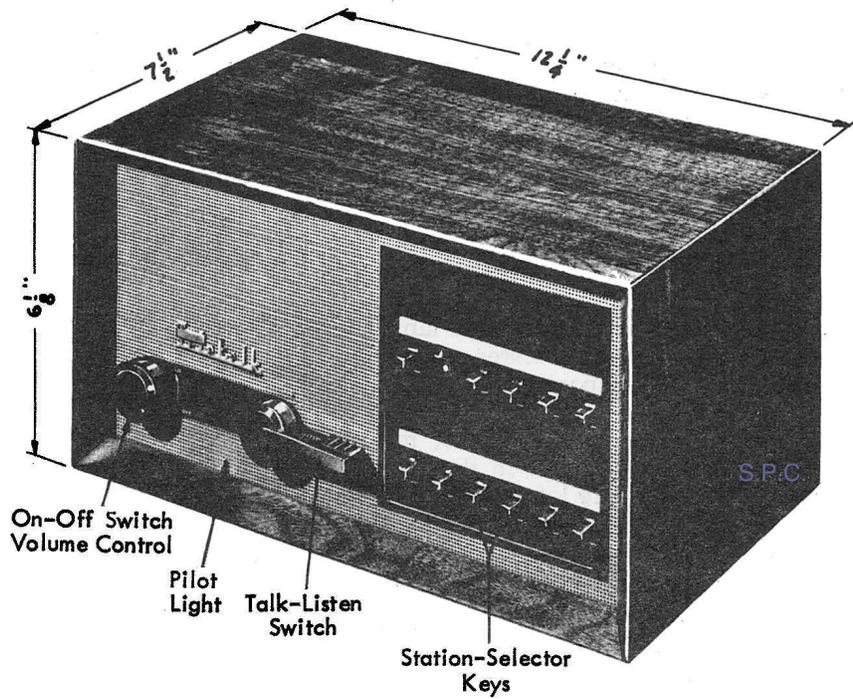
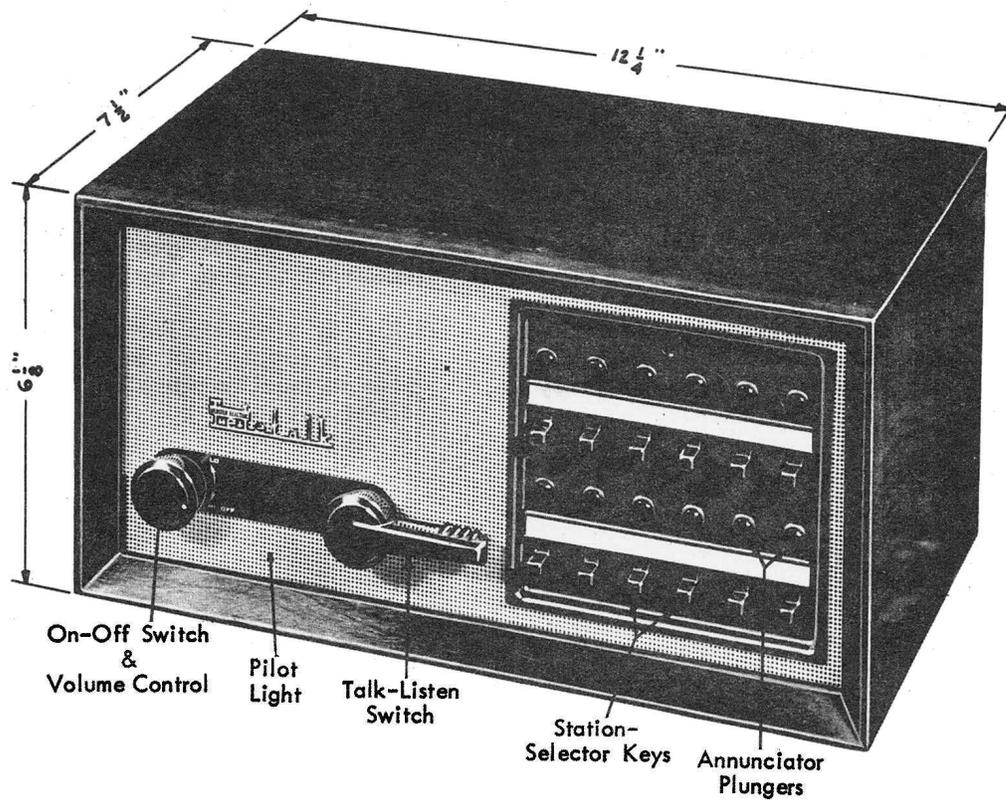

Fig. 1 - 1200 Master Station
Fig. 2 - 1200A Master Station
2.05 Figure 1 shows the 1200-series master station without annunciators and Figure 2 with annunciators. The cabinets have a walnut finish.